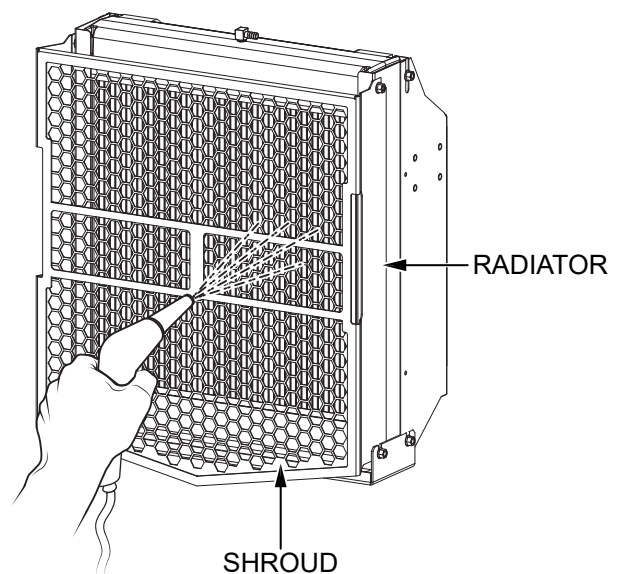

Figure 58. Radiator Cleaning
1. Blow off dirt and dust from the radiator and shroud (Figure 58) with 28 psi (193 kPa) or less of compressed air. Be careful to not damage the fins with the compressed air.